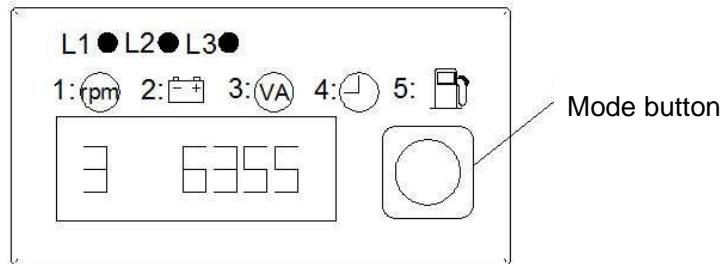

Figure 22
(4) Figure 22 is the display of battery voltage. When the mode button selects mode 2, the displayer shows battery voltage.